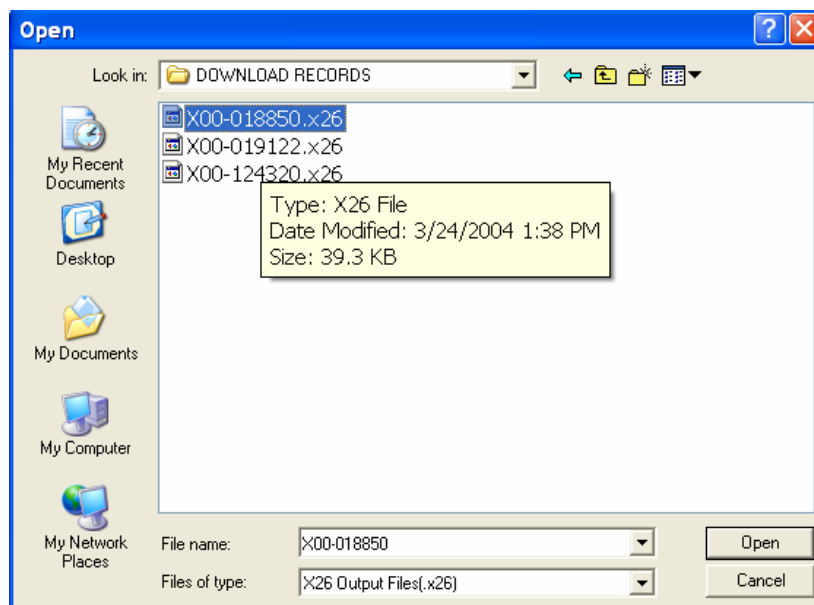

Figure 24
2. Select the desired file from the appropriate folder (Figure 24).